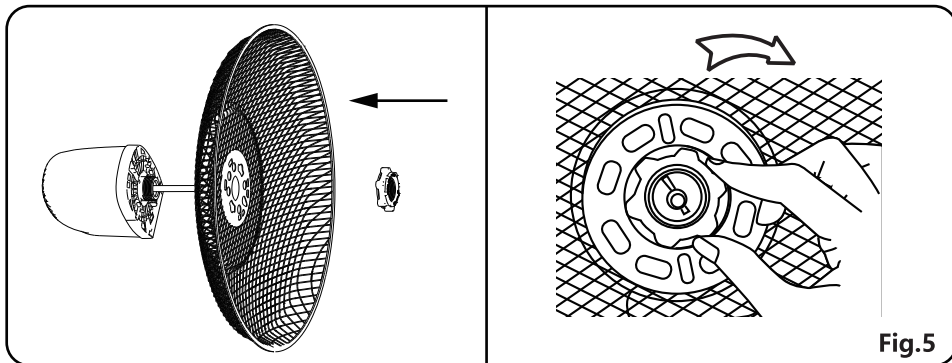

Fig.5
1. Unscrew the spinner and guard mounting nut and remove them. Attach the rear guard to the motor, make sure the handle is on the top. Then tighten the nut clockwise again. (Fig. 5)